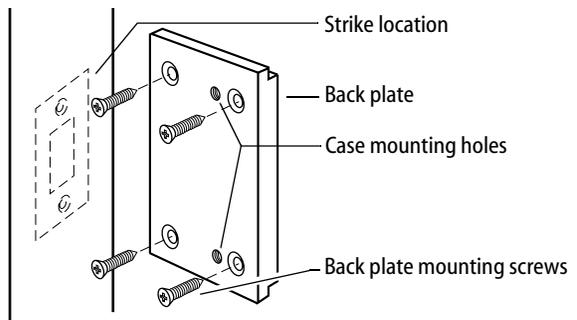

Figure 3 — Locating the back plate
- 2 Drill the holes for the back plate. See Figure 3.
- 3 Install the back plate making sure that the case mounting holes are located on the opposite side of the strike location. See Figure 3.